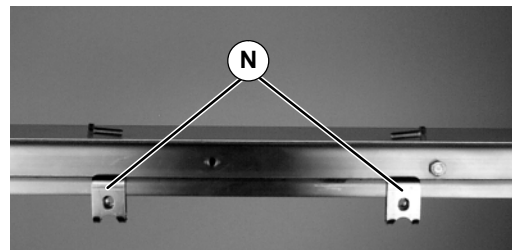

Figure 4
**NOTE:** For shipping, T-bars (A), Mounting Plate (B), Mounting Brackets (D) and Pushbutton Box (G) are pre-assembled. Detach T-bars before proceeding.
1. Install mounting clips (N of Figure 4) on conveyor.